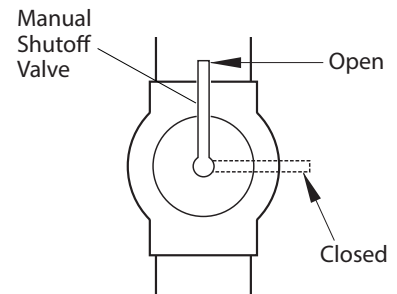

Figure 5.9 - Manual Shutoff Valve
1. Close manual shutoff valve (see Figure 5.9).
1. Open manual shutoff valve (see Figure 5.9).